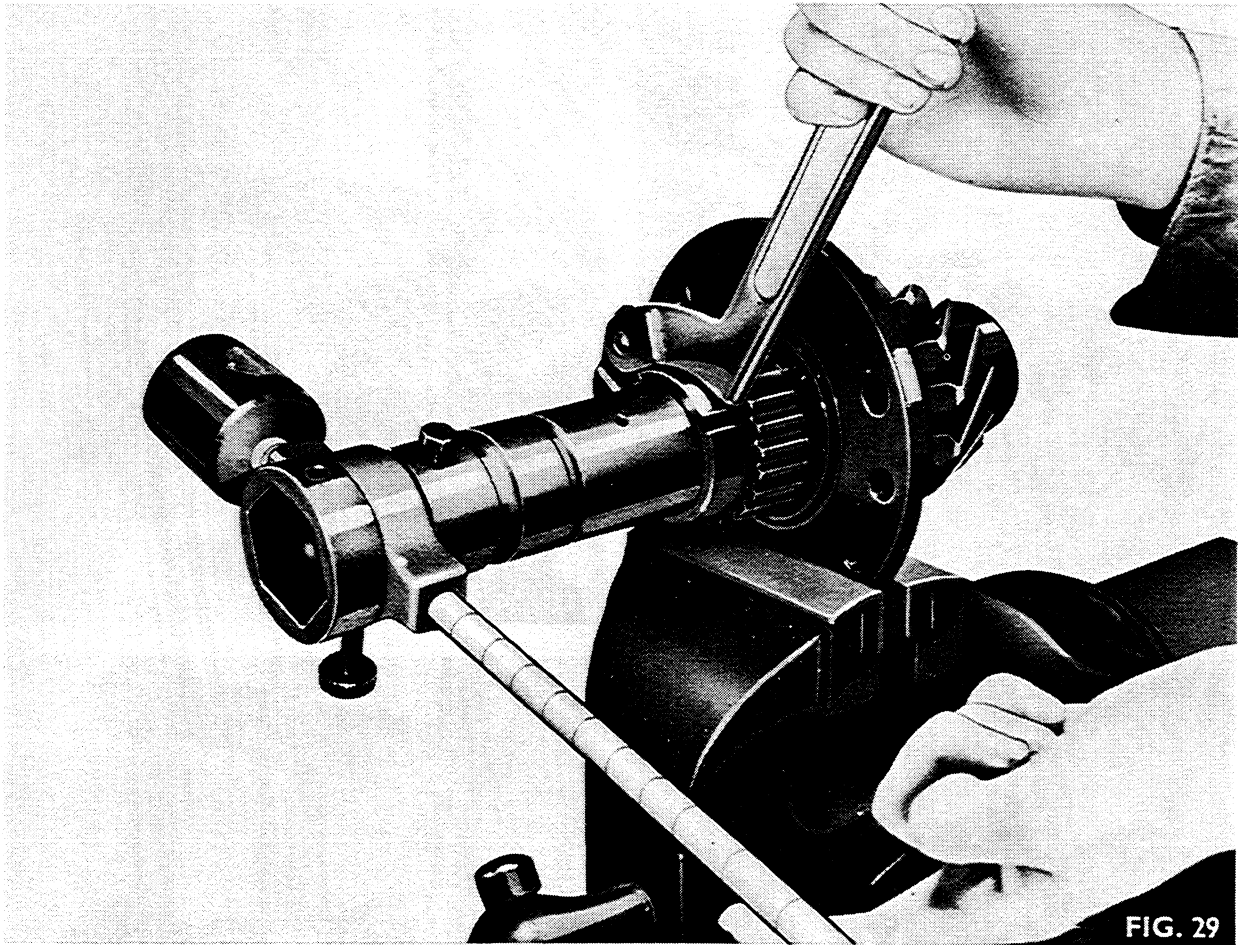

FIG. 29
6. Fig. 29. Tighten the locking ring (25) using the 3150 'C' spanner, simultaneously tapping the pinion to centralise the bearing. When the pre-load is correctly set, the weight on the gauge should just fall freely under its own weight.
7. Secure the locking ring with the tab washer (24).